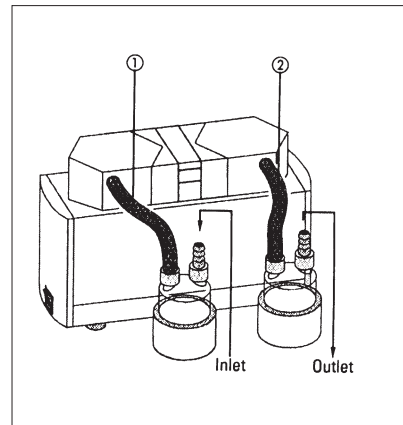

Figure 7: Tubing system SR... (two-headed pumps)
- ① Slide in the holders for the Separators into the Baseplate mounting slot.
- ② Fix the holders by tighten the screws in the bottom of them.
- ③ Place the glass Separators into the holders.
- ④ Tubing of two-headed pumps: see figure 7. For tubing of single-headed pumps and pumps with aluminum heads (pump types including an „A“ in the type code), please contact KNF. Choose tube material which is resistant against the media to be used.